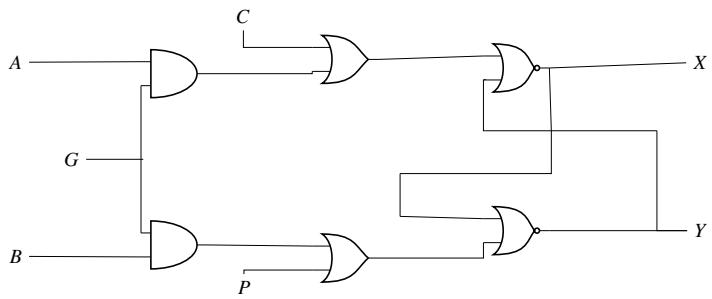

Fig. 5.27
30. For the following circuit Fig. 5.27, the correct logic values for the entries X_2 and Y_2 in the truth table in Table 5.2 are (GATE PH 2019)